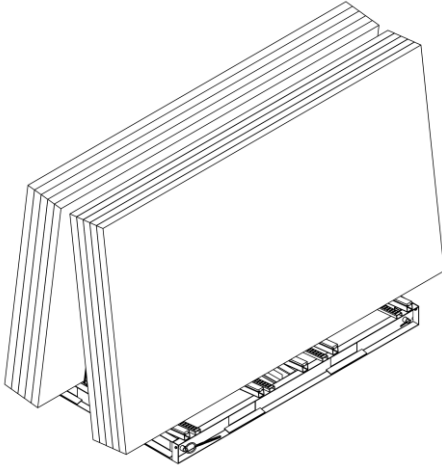

Figure 2.2
Step 2: Place the stone slabs on the A-frame (Figure 2.2).